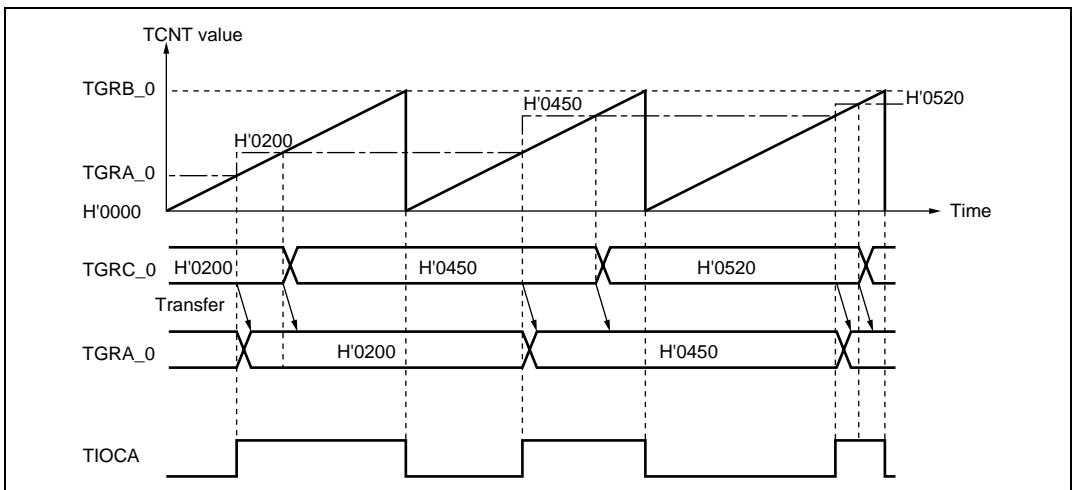

Figure 8.15 Example of Buffer Operation (1)
1. When TGR is an output compare register: Figure 8.15 shows an operation example in which PWM mode 1 has been designated for channel 0, and buffer operation has been designated for TGRA and TGRC. The settings used in this example are TCNT clearing by compare match B, 1 output at compare match A, and 0 output at compare match B.